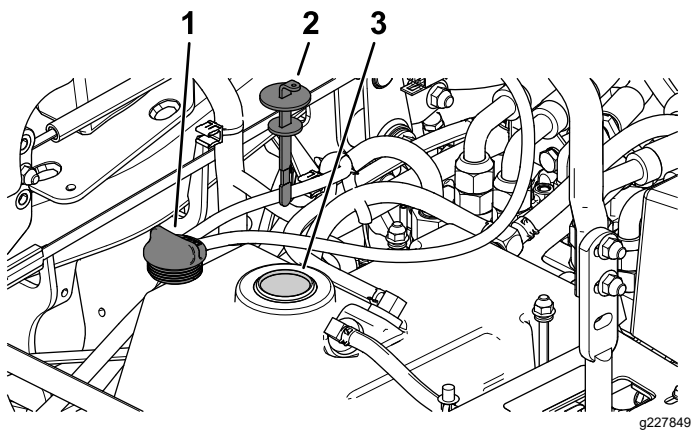

Figure 68
5. Remove the hydraulic-tank cap (Figure 68).
6. Remove the dipstick and wipe it with a clean rag (Figure 68).